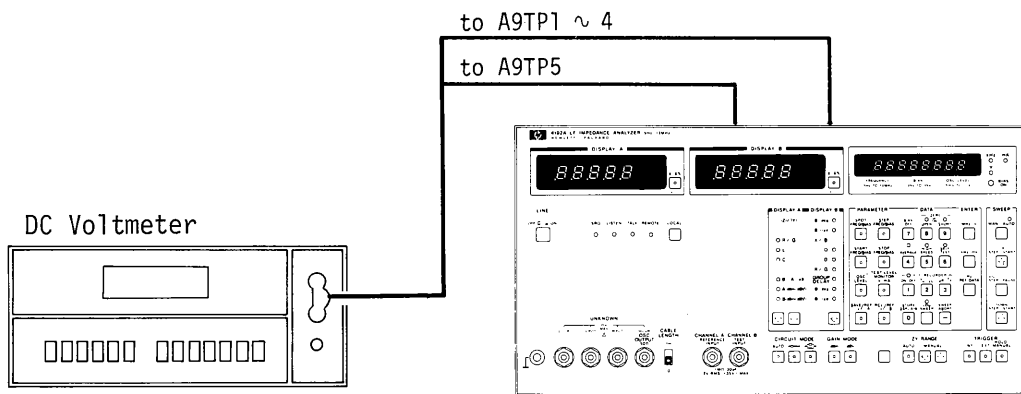

Figure 5-19. A9 Analog Recorder Output Check and Adjustment Setup.
- a. Connect the high input of the 3465A to A9TP1 and the low input to A9TP5 as shown in Figure 5-19.
(2) 0V Reference Voltage Check